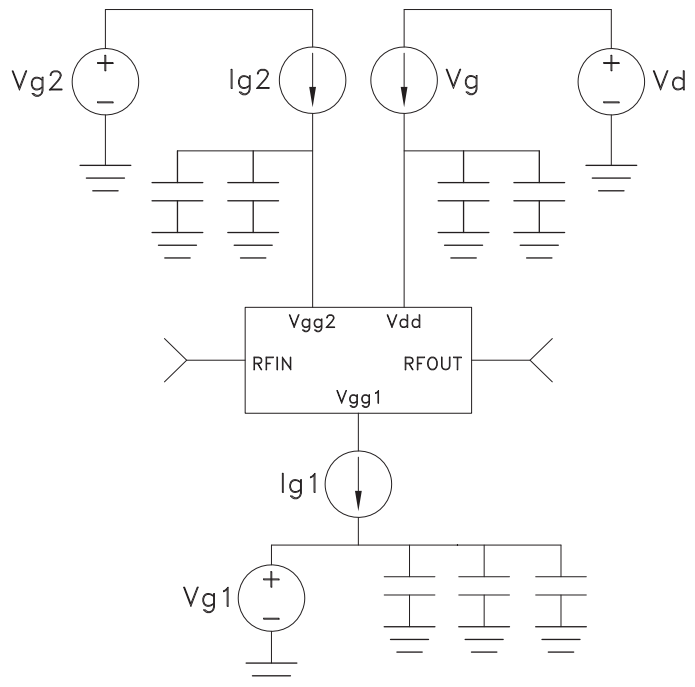

Figure 4 - Cascode Distributed Amplifier
1. The cascode distributed amplifier uses a fundamental cell of two FET's in series, source to drain. This fundamental cell is then duplicated a number of times. The major benefit is an increase in the operation bandwidth. Figure 4 shows a typical block schematic
3. Turn on all the power supplies and set for zero (0) volts – be sure to verify this by using a digital multi-meter. Measure the voltage between the plus and minus terminals of the power supplies since they are floating.